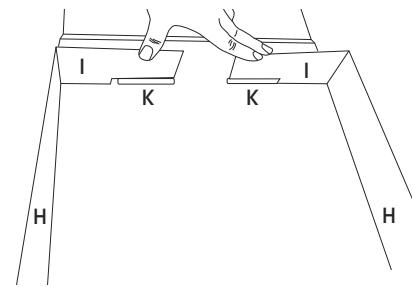

Figure 10
2. On one side of the box lid, fold in lid sides (I) over slots (K). (See Figure 10)